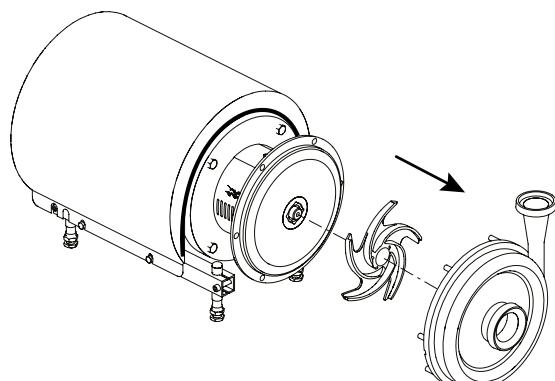

Fig. 12.2.1c Pump without impeller screw fitted
- With this method the impeller should always be removed before checking the direction of rotation (Fig. 12.2.1c)